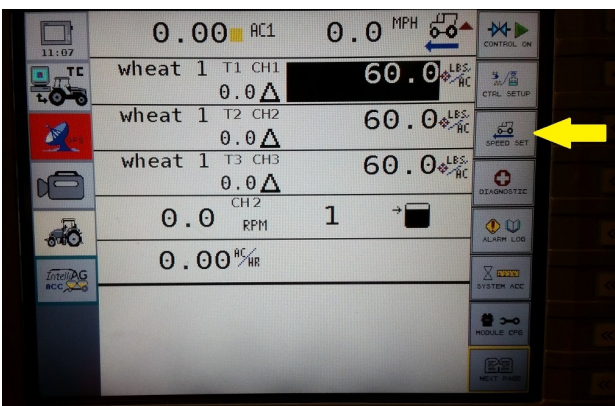

Figure 32
Step 3. Select **Speed Set** (Figure 32)